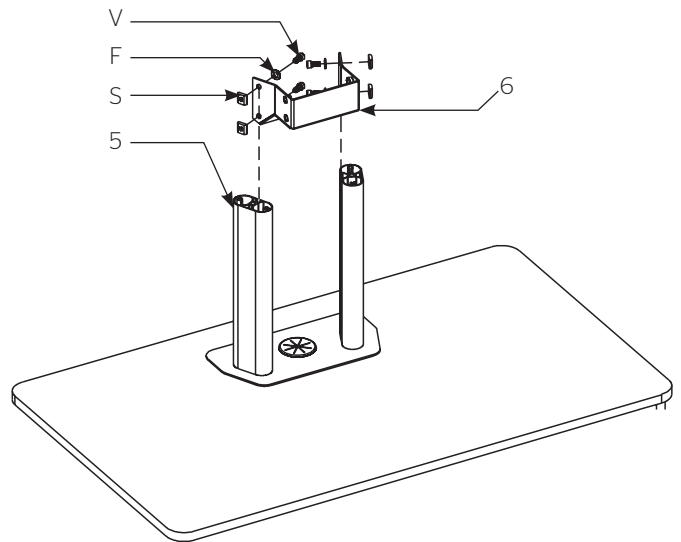

Figure 3
4. Install Mount Support Bracket onto Aluminum Columns. See Figure 3. **Tighten all fasteners including those securing the Columns.**